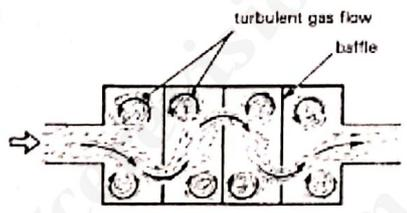

Figure 2
5. The silencer shown in figure 2 below is called a